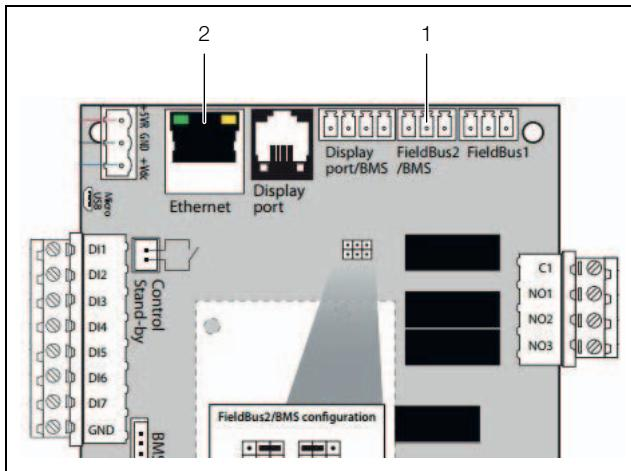

Fig. 10: Connectors
- On the board use the "FieldBus2" connector (fig. 10, item 1) to connect the appliance to a monitoring device.
- On the board use the "Ethernet" connector (fig. 10, item 2) to connect the appliance to a monitoring device via web pages.